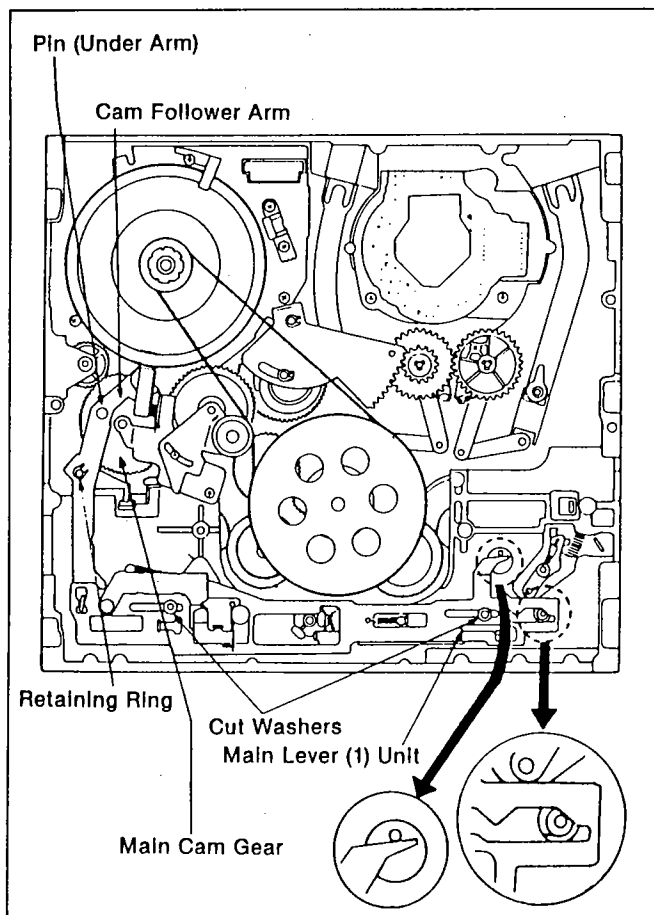

Figure M44
2. Install the Cam Follower Arm so that the pin of the Cam Follower Arm inserts into the groove of the Main Cam Gear and also inserts into the slot on the Main Lever Unit, insert the retaining ring as shown in Figure M44.